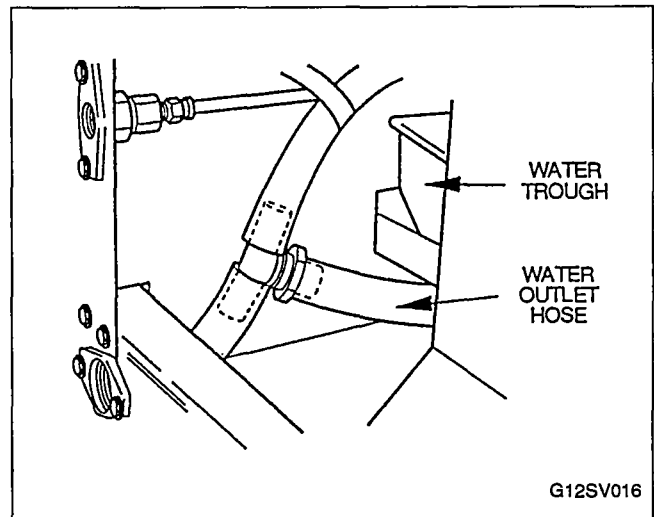

FIGURE 16. DISCONNECT WATER OUTLET HOSE
2. Disconnect water outlet hose (Figure 16).